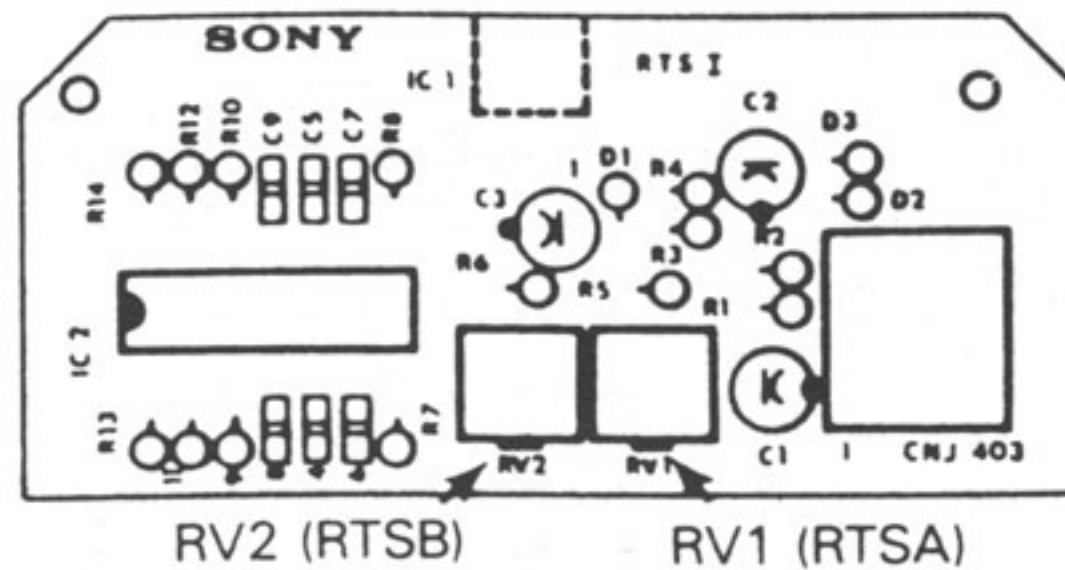

Figure 7-4. RTS Board
- STEP 9.** Adjust RV1 on the supply motor RTS board (Figure 7-4) so that the duty cycle of the displayed waveform becomes 50%.